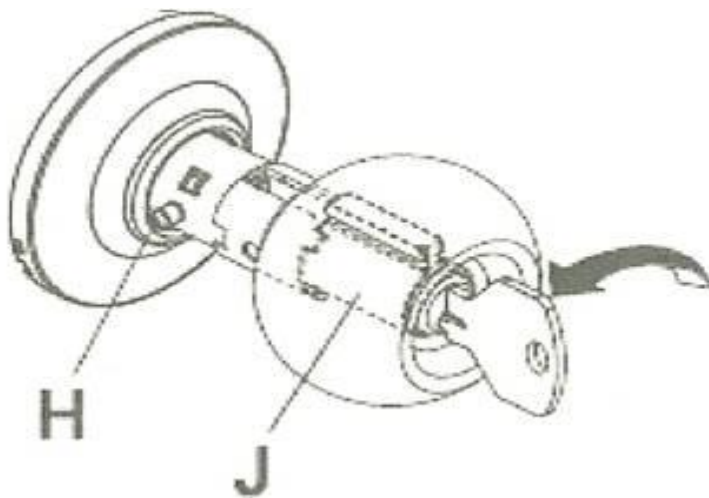

FIGURE 9-2
<p>Install Hardware</p>	<ol style="list-style-type: none"> 5. Install lockset and strike plate per instructions. <ol style="list-style-type: none"> a. Be sure door latches easily but tightly with little rattle b. If it rattles. Bend tab inside the strike plate with flat blade screwdriver 6. Install the security deadbolt strike plate (not that provided with lockset). <ol style="list-style-type: none"> a. Set strike plate in place, predrill into Jack stud with 3/16” bit, secure with two large screws provided b. Make sure deadbolt is installed so top of lever turns in the direction of bold travel. If it does not, remove deadbolt from door, rotate 180° and reinstall 7. Install lockset per instructions and make sure lockset and deadbolt key direction is the same (notches up). See Fig. 9-2 (Reveres side). If not: <ol style="list-style-type: none"> a. Unlock the lock and insert the key half-way (do not insert completely) b. Push in retainer pin (H) on neck of knob, pull knob just past the pin c. Holding knob, rotate cylinder (J) to correct orientation d. Push in pin and push knob back in place. 8. Verify Lockset and deadbolt operation. Adjust as needed for easy operation, door closes snugly, latches with little effort, deadbolt engages/disengages easily and moves in same direction as top of lever (Fig. 9-2 next page)